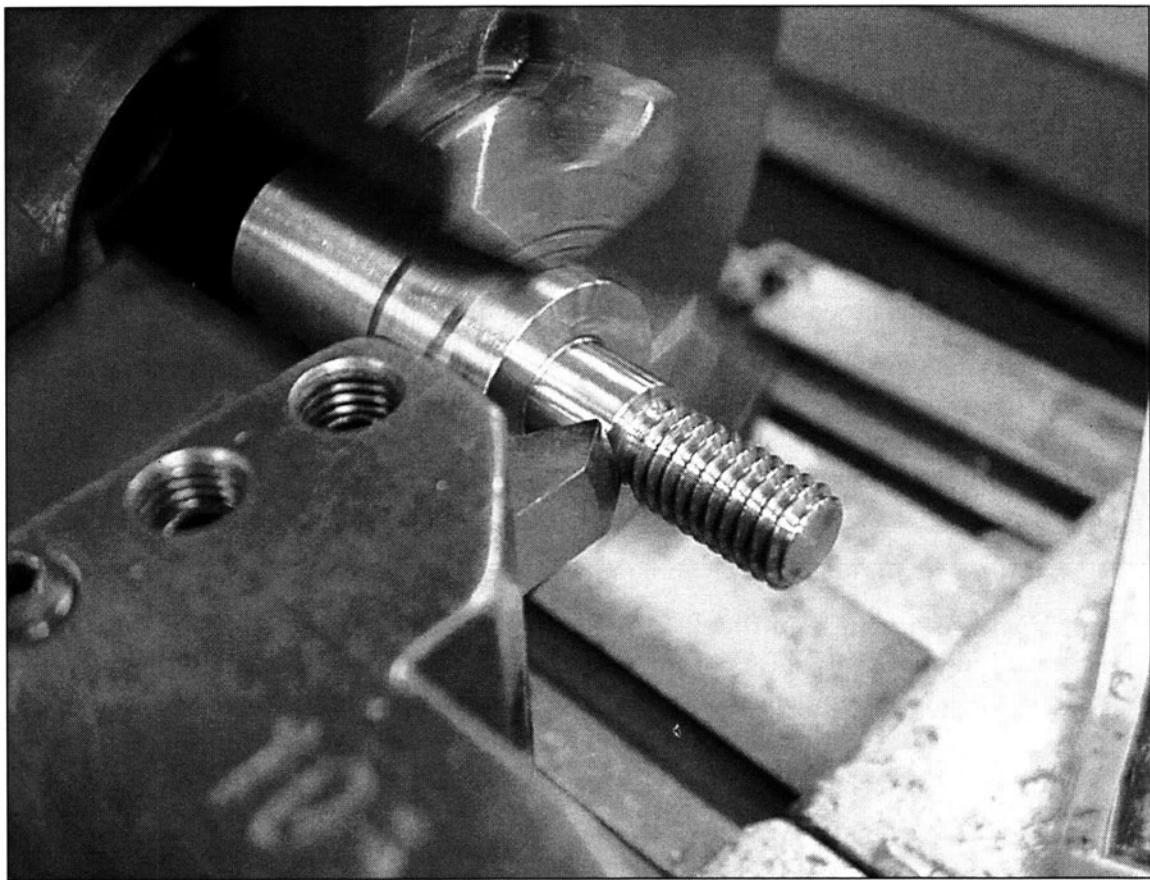

FIGURE 8-6 Single point threading with the cutter inverted and the spindle running in reverse allows feeding the tool from the undercut towards the tailstock.
9. Cut single point threads away from the shoulder of a lathe part to be safe. (See Fig. 8-6)